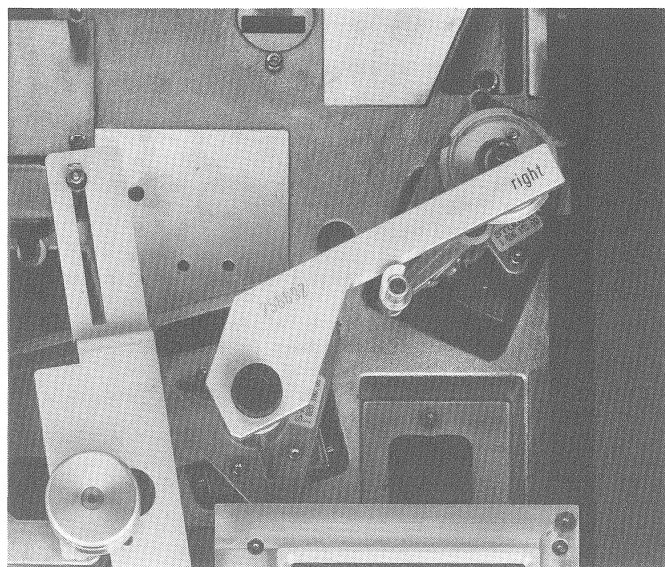

Fig. 3.3.9
- Insert gauge for adjusting the tape tension sensors according to Fig. 3.3.9 (part No. 10.010.001.30) into the tape tension sensor; the voltage should be 2.700 V ± 10 mV (Gain).
- Insert gauge for adjusting the tape tension sensors according to Fig. 3.3.9, adjust gain with R9 to a voltage of 2.700 V ± 10 mV.